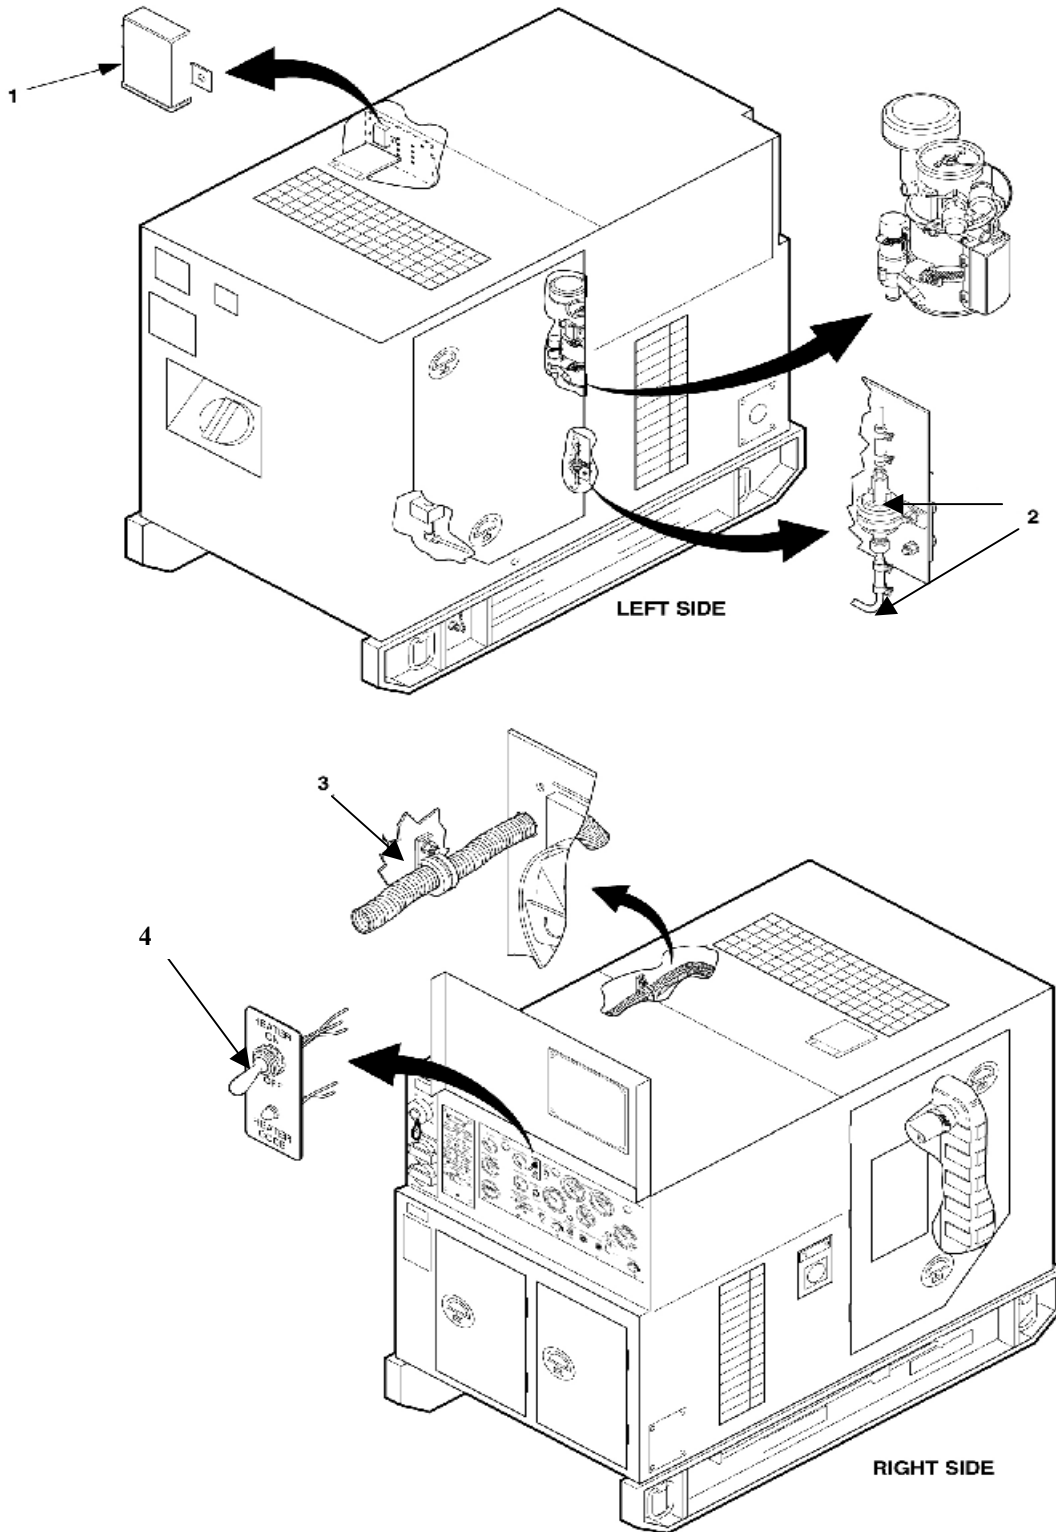

Figure 4-1. Unit PMCS Routing Diagram.
**4-7.4 Special Instructions.** Preventive maintenance is not limited to performing the checks and services listed in the PMCS table. See Figure 4-1 for PMCS routing. Covering unused receptacles, stowing unused accessories, and other routine procedures such as equipment inventory, cleaning components, and touch up painting are not listed in the table. If a routine check is listed in the PMCS table, it is because experience has shown that problems may occur with this item. Take along tools and cleaning cloths needed to perform the required checks and services.